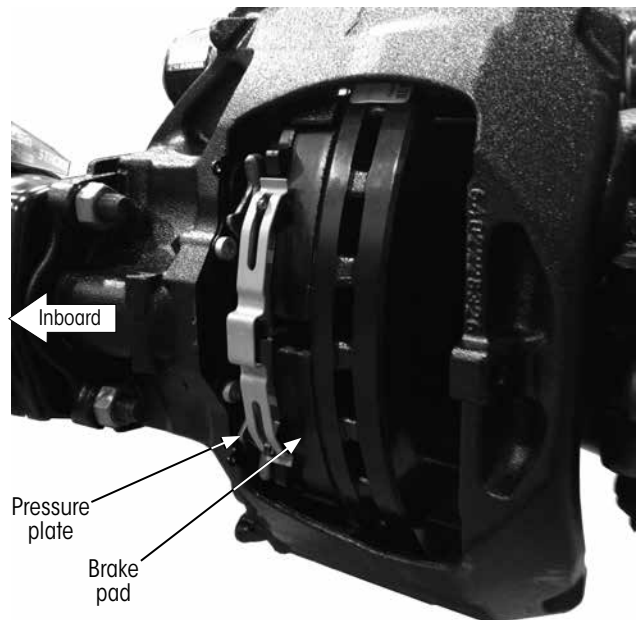

Figure 21: Removing inboard brake pad and pressure plate
10. **Manually push** the brake caliper inboard (Figure 21, arrow).